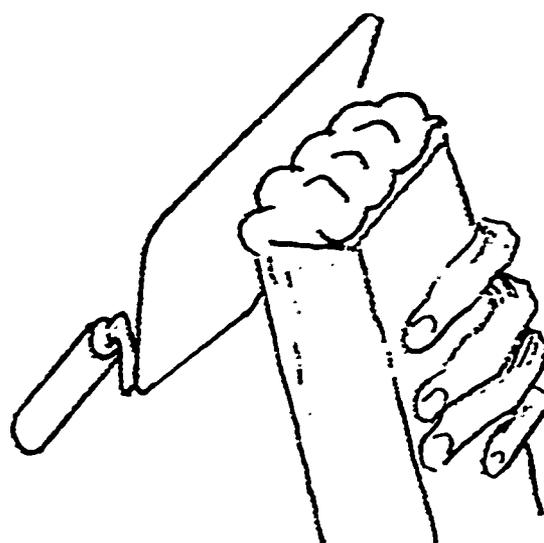

FIG. 512
2. Select the type of bond to be used. See figure 512.
apply mortar ( $3/4$ " ) to the end butting against the previous brick. See figure 512.